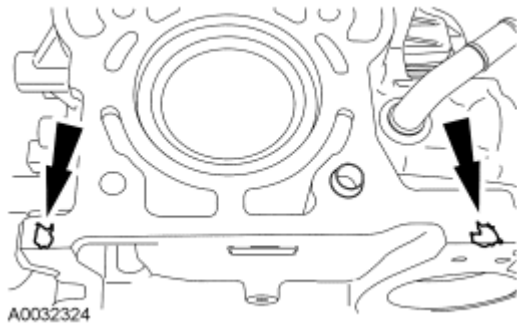

Fig. 104: Identifying Silicone Gasket And Sealant Location
4. Apply silicone gasket and sealant to the locations shown in **Fig. 104**.